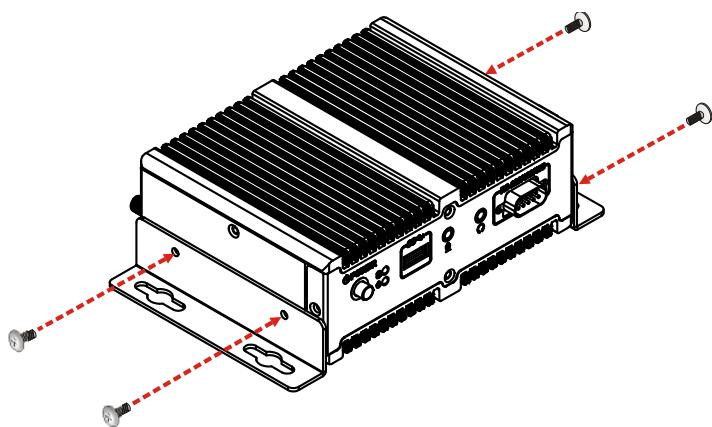

Figure 3-11: Mounting Bracket Retention Screws
Step 2: Secure the brackets to the system by inserting two retention screws (M3*5) into each bracket (**Figure 3-11**).